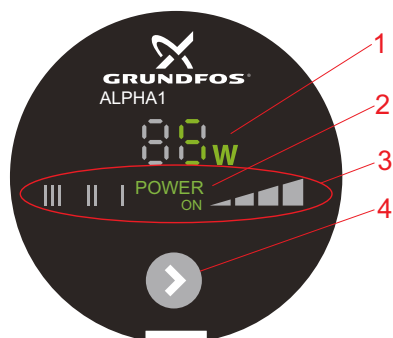

Fig. 8 GRUNDFOS ALPHA1 control panel
The display (fig. 8, pos. 1) is on when the power supply has been switched on.
The "POWER ON" light field (fig. 8, pos. 2) is on when the power supply has been switched on.
The pump has seven optional settings which can be selected with the push-button. See fig. 8, pos. 4.
Every time the push-button (fig. 8, pos. 4) is pressed, the pump setting is changed.